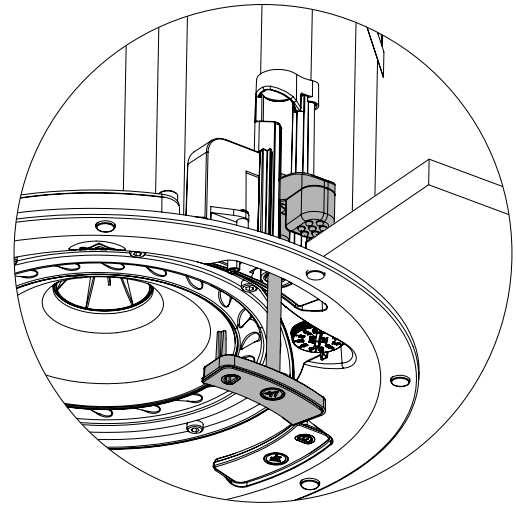

Figure 47
- Pull T-handle down firmly in a smooth continuous motion until the dogleg engages the C-ring and ceiling (Figure 47). Pull handle tight to lock in place.